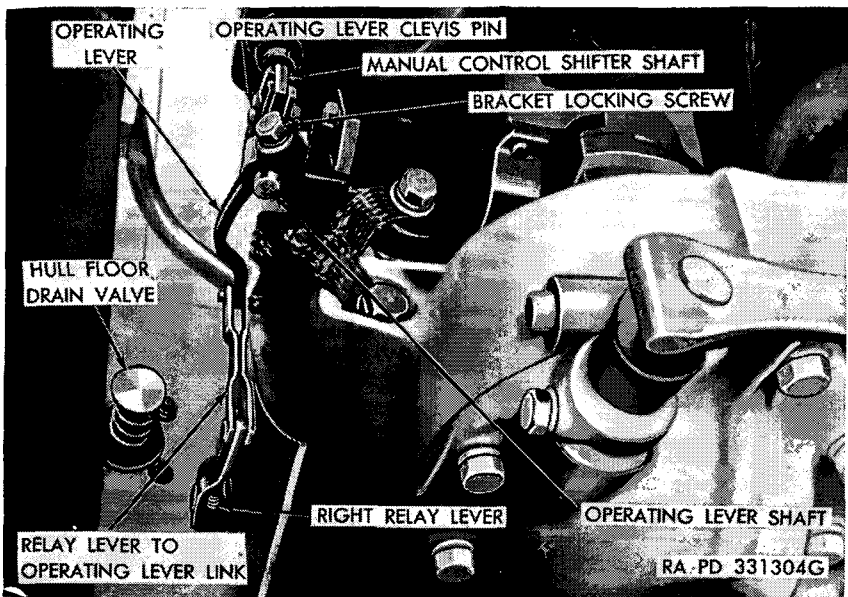

Figure 106. Transmission control linkage.
made at the operating lever mounting bracket on the transmission rear bearing support (fig. 106) as outlined in *b* and *c* below.
b. **ADJUSTMENT PROCEDURE.** Place transmission selector lever in "DRIVE" slot of quadrant (fig. 9). Open door in bulkhead extension cover over transfer unit. Working through opening, loosen locking screw on operating lever shaft (fig. 106). Move operating lever and attached levers to the middle detent position. Holding shaft in position, tighten locking screw. Adjust other transmission linkage in same manner.
- (2) *Remove side cover.* Working through the floor opening, remove hairpin lock and clevis pin which hold operating fulcrum lever to adjustable mounting bracket on rear bearing support (fig. 106) and lower lever out of the way.